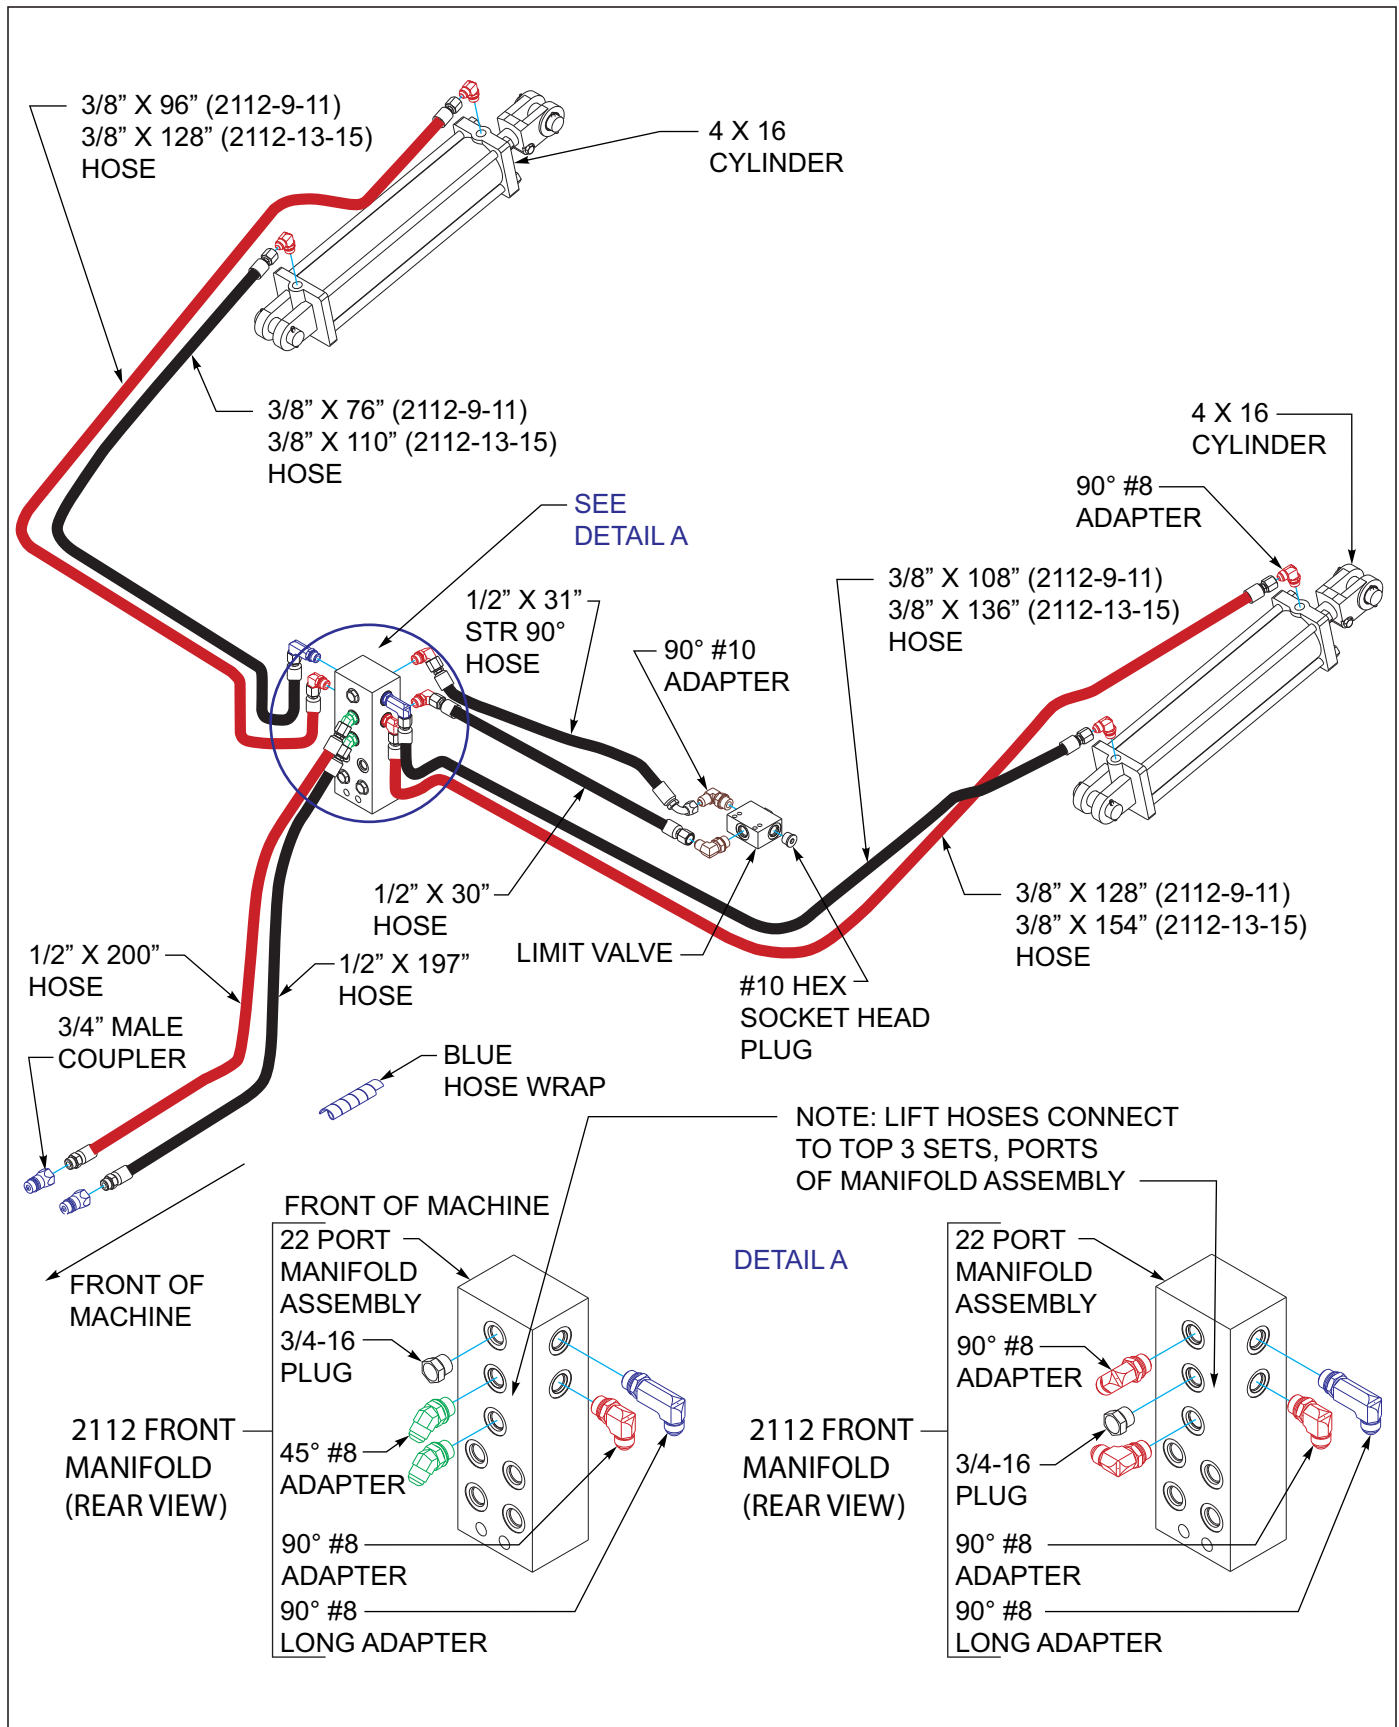
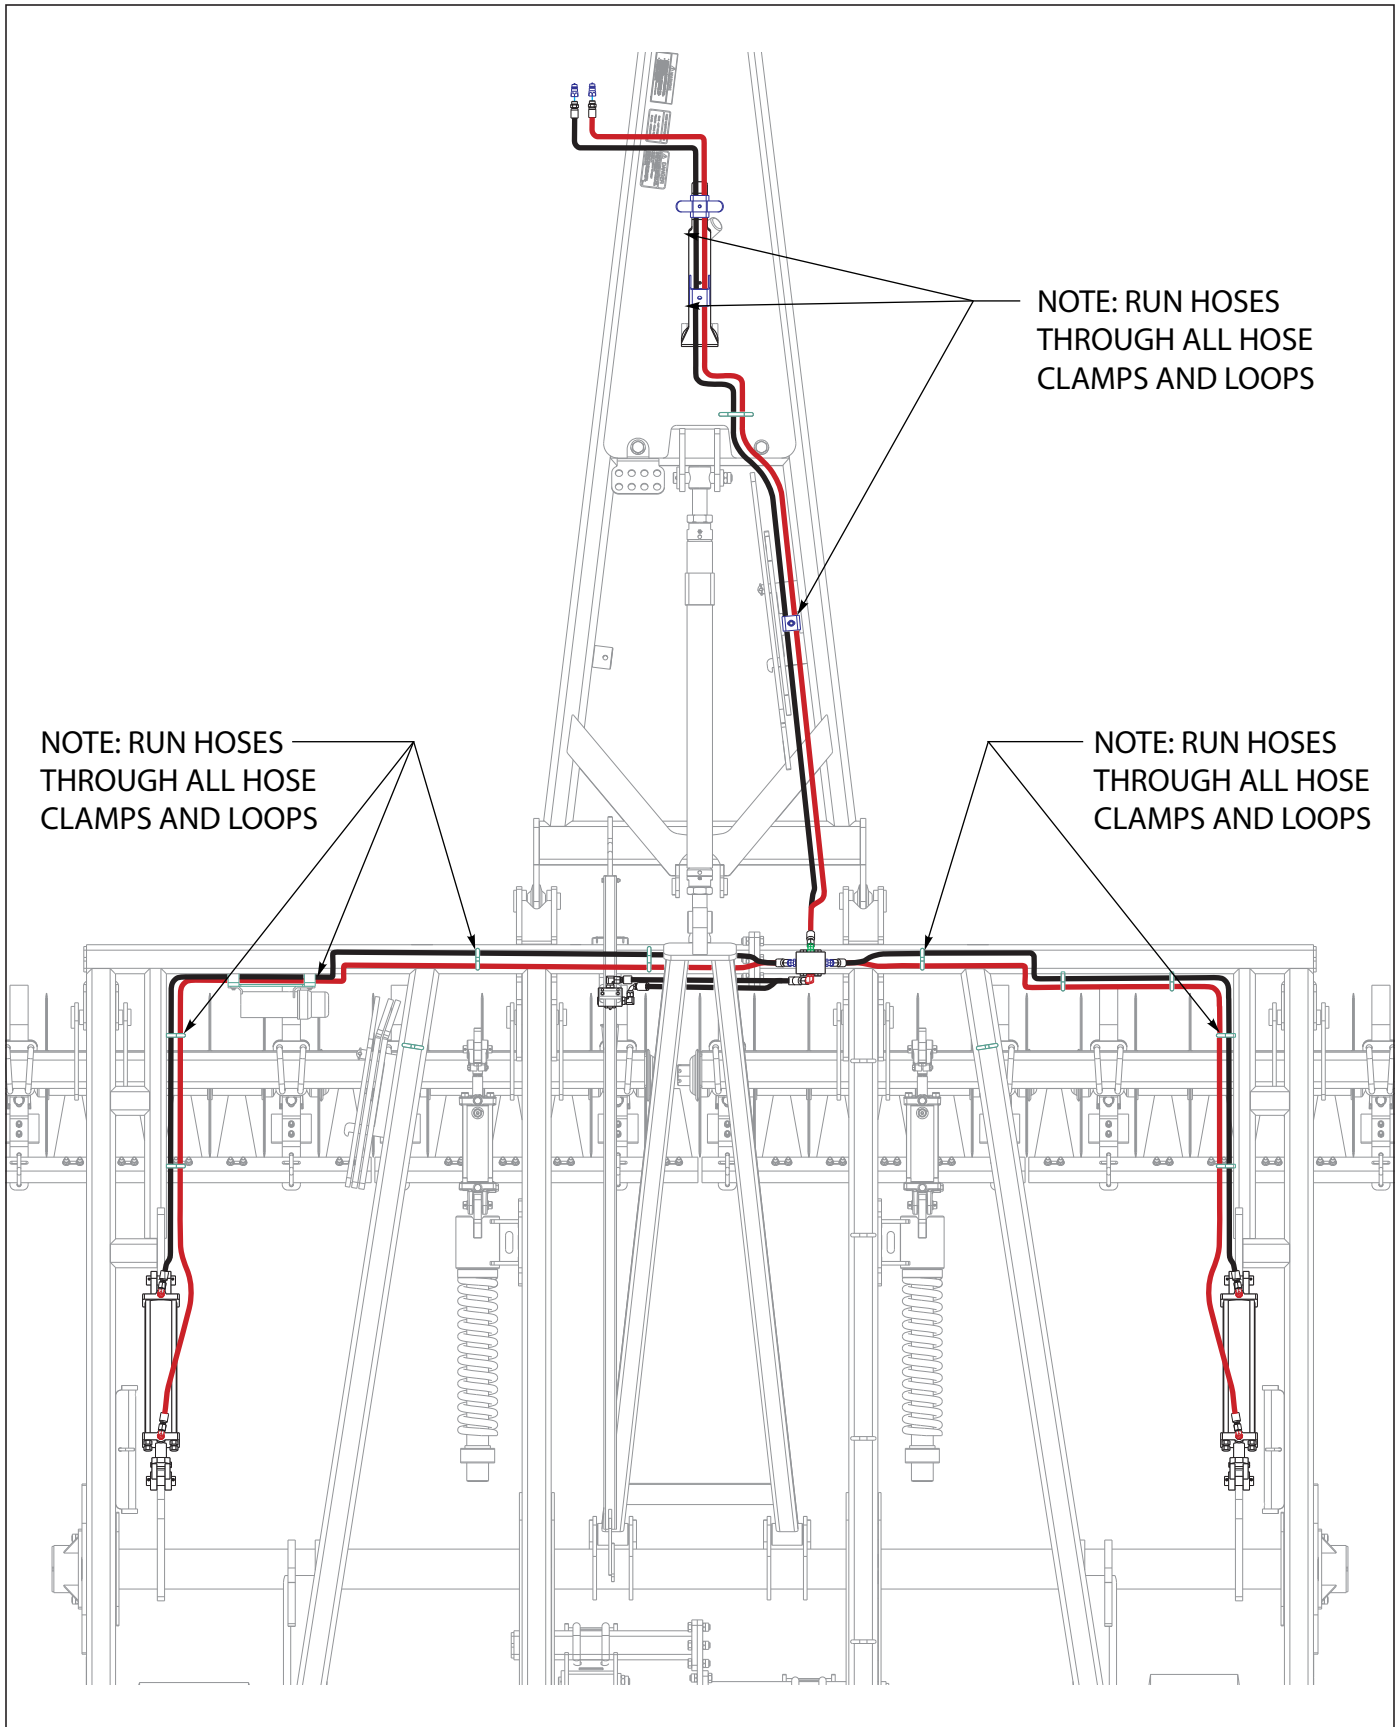

Figure 3-13: Lift Hydraulic Installation
Figure 3-14: Lift Hydraulic Layout
1. *See Figures 3-13* through *See Figures 3-14* for lift hydraulic installation.